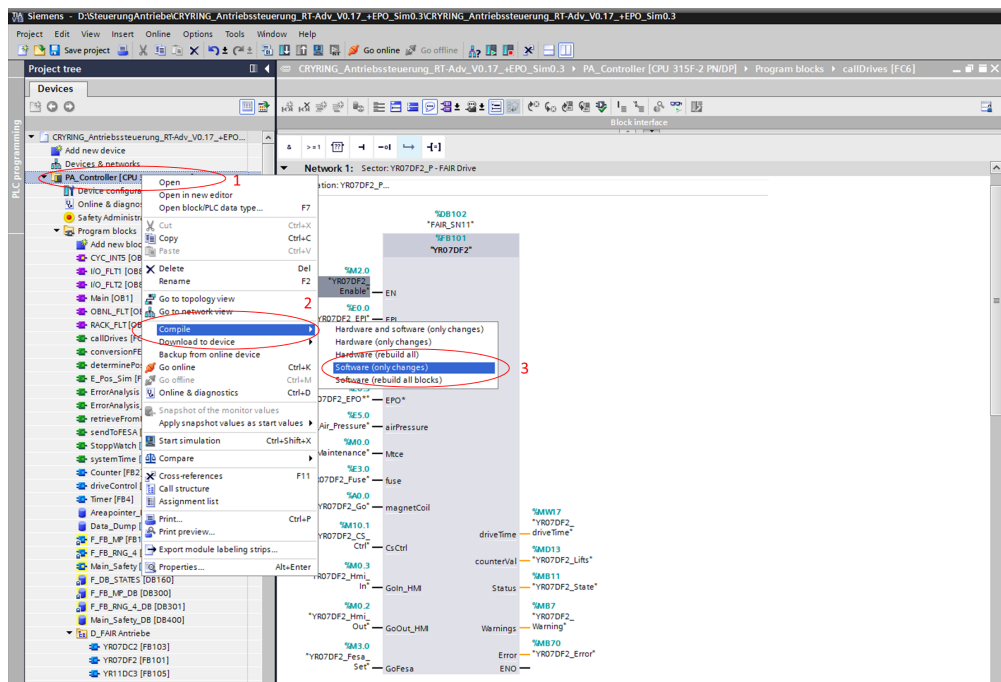

Figure 8: Compile the software changes
14. Compile only the software changes (Figure 8)